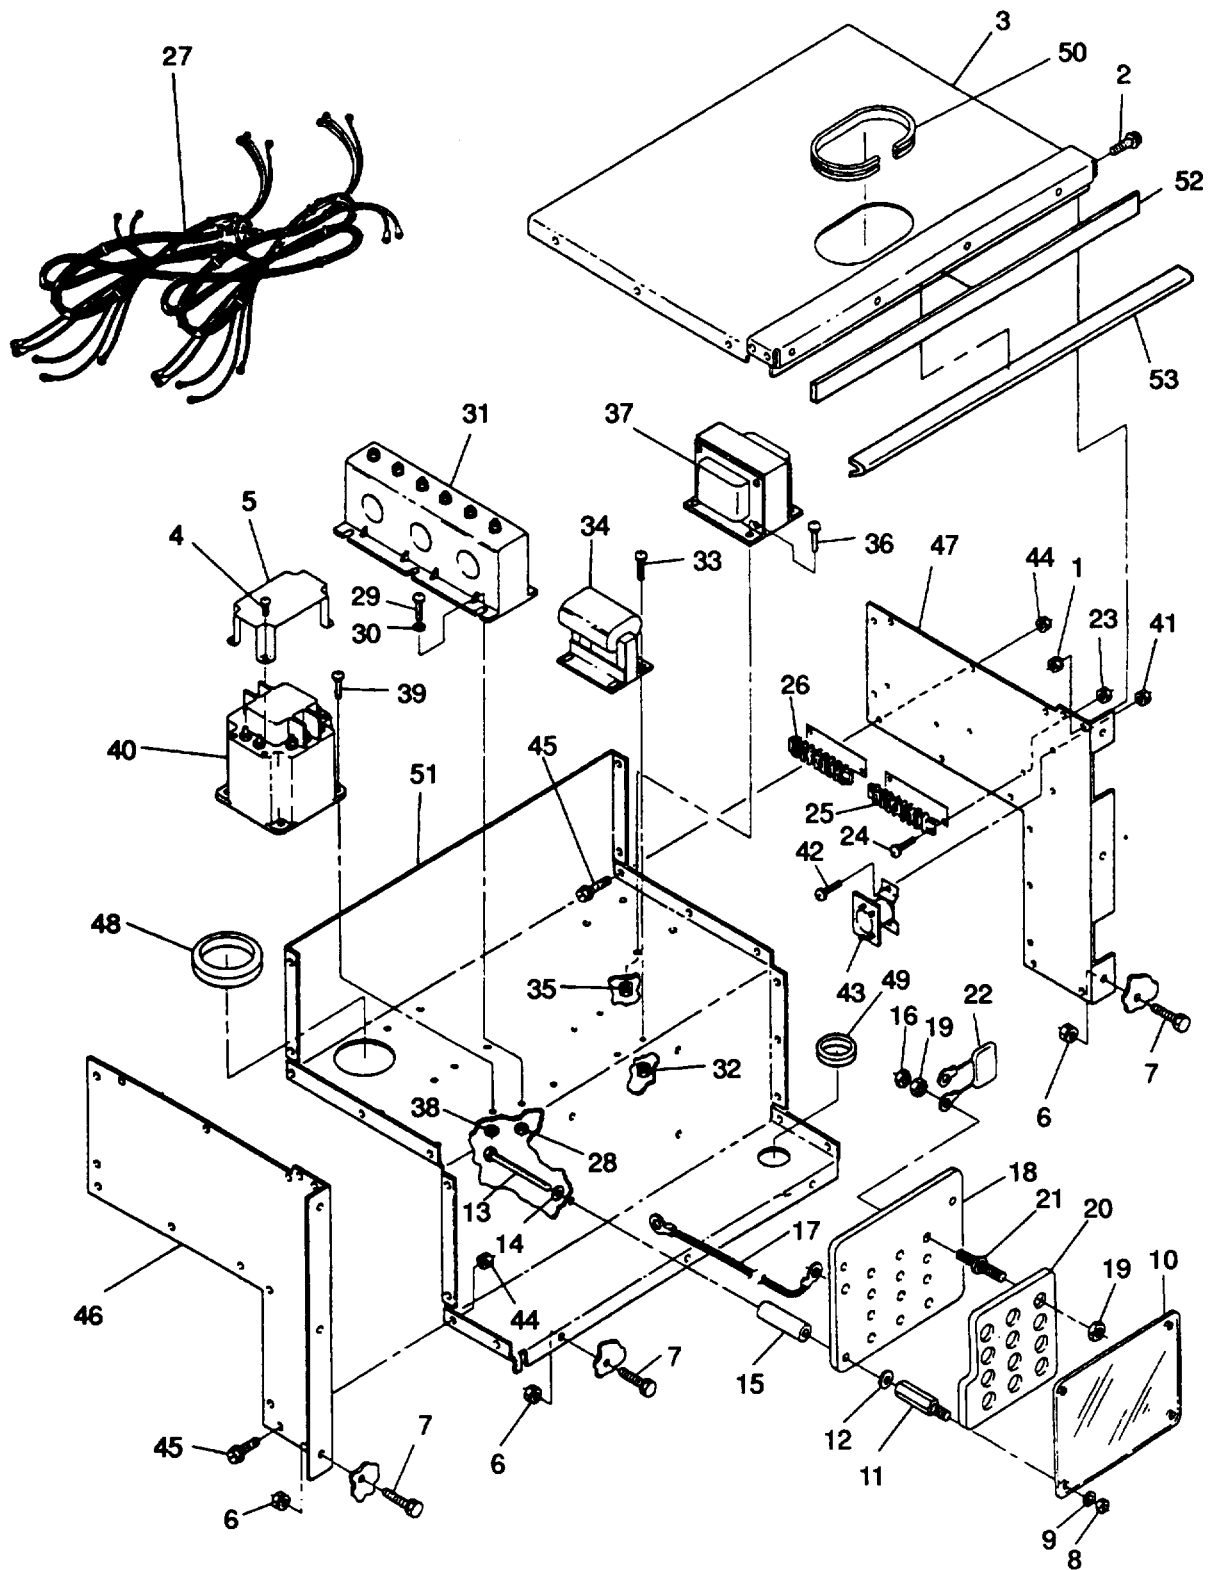
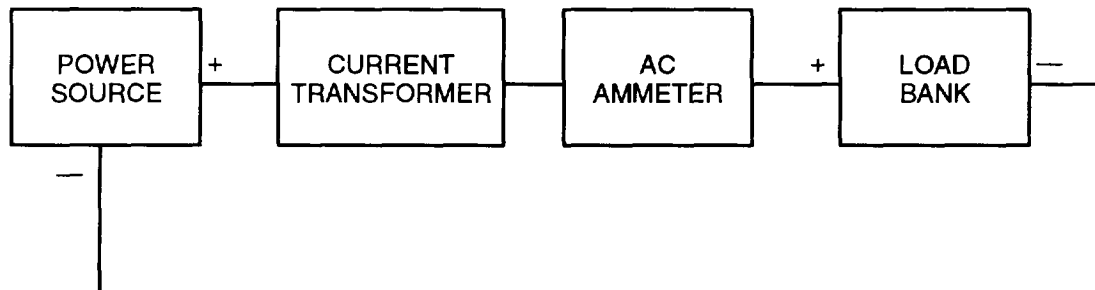

FIGURE 4-3. Output Box Assembly
FIGURE 4-4. Testing Current Transformer
- k. Remove nuts (1, FIGURE 4-3), bolts (2), and output box top panel (3) from output box assembly.
- q. Remove nuts (6, FIGURE 4-3), bolts (7), and output box assembly from generator set.
- a. Install output box assembly in generator set with bolts (7, FIGURE 4-3) and nuts (6).
- c. Connect exciter leads F1 and F2 to terminals 1 and 2 of terminal board (26, FIGURE 4-3), and remove tags.
- d. Connect output cables to terminals A2, B2, and C2 of AC circuit interrupter relay (40), and remove tags.
- e. Install cover (5) on AC circuit interrupter (40) with screws (4).
- f. Install main generator cables onto current transformer (31) and droop current transformer (34) the same number of wraps recorded during removal.
- k. Install output box top panel (3) with bolts (2) and nuts (1).
- d. Remove nuts (8, FIGURE 4-3), washers (9), and cover (10) from voltage reconnection board (18).
- e. Unscrew standoffs (11) and remove washers (12), bolts (13), washers (14), and mounts (15).
- f. Remove nuts (16), tag and disconnect electrical cables (17) and main generator cables from voltage reconnection board (18).
- g. Remove voltage reconnection board (18) and moveable terminal board (20) from generator set as assembly.
- h. Tag position of capacitors (22) on voltage reconnection board (18).
- i. Remove nuts (19), movable terminal board (20), studs (21), and capacitors (22) from voltage reconnection board (18).
- a. Insert studs (21, FIGURE 4-3) in voltage reconnection board (18). Position capacitors (22) as tagged, align moveable terminal board (20) with voltage reconnection board (18) and install nuts (19). Remove tags.
- b. Position voltage reconnection board (18) and moveable terminal board (20) in generator set.
- c. Connect electrical cables (17) and main generator cables to voltage reconnection board (18) with nuts(16) and remove tags.
- d. Secure voltage reconnection board(18) to generator set with bolts (13), washers (14), mounts (15), washers (12), and standoffs (11).
- e. Install cover (10) with washers (9) and nuts (8).
- g. Open output box access door. Remove screws (4, FIGURE 4-3) and cover (5) from AC circuit interrupter relay (40). Tag and disconnect electrical leads from cranking relay (43), current transformer (31), AC circuit interrupter relay (40), power potential transformer (37), and voltage reconnection board (18).
- h. Tag and disconnect electrical leads for droop current transformer (34) from terminal board (25).
- i. Remove screws (24) and nuts (23) securing terminal boards (25) and (26) in output box.
- k. Remove output box harness (27) from output box and generator set.
- a. Position output box harness (27, FIGURE 4-3) in output box and generator set.
- c. Secure terminal boards (25) and (26) in output box with screws (24) and nuts (23).
- d. Connect electrical leads for droop current transformer (34) to terminal board (25) and remove tags.
- e. Connect electrical leads to AC circuit interrupter relay (40), current transformer (31), cranking relay (43), power potential transformer (37), and voltage reconnection board (18). Install cover (5) with screws (4) on AC circuit interrupter relay (40). Remove tags and close output box access door.
- f. Tag and disconnect current transformer (31, FIGURE 4-3) electrical leads.
- g. Tag and disconnect main generator cables T2 and T8 from voltage reconnection board (18).
- h. Unwrap main generator cables from droop current transformer (34) and current transformer (31). Note number and direction of wraps.